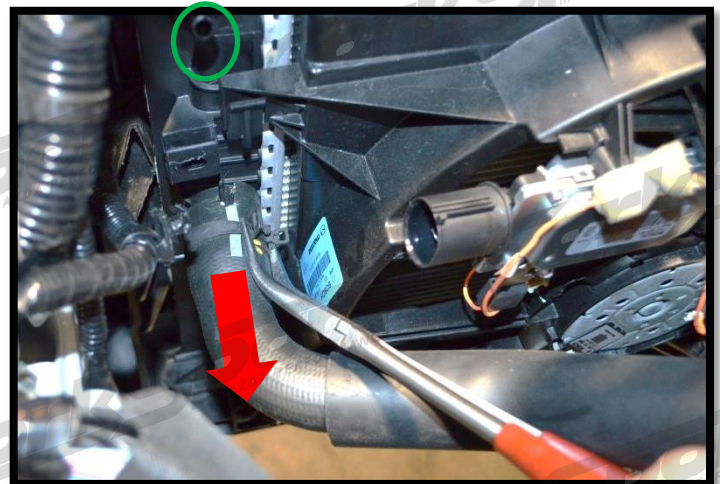

Figure 1h
k) Disconnect the Driver's side lower radiator hose (Figure 1h).
l) Disconnect the radiator bleed line (shown removed and circled in green in Figure 1h).
k) Disconnect the Driver's side lower radiator hose (Figure 1h). Squeeze the hose clamp together with a pair of long needle nose pliers.